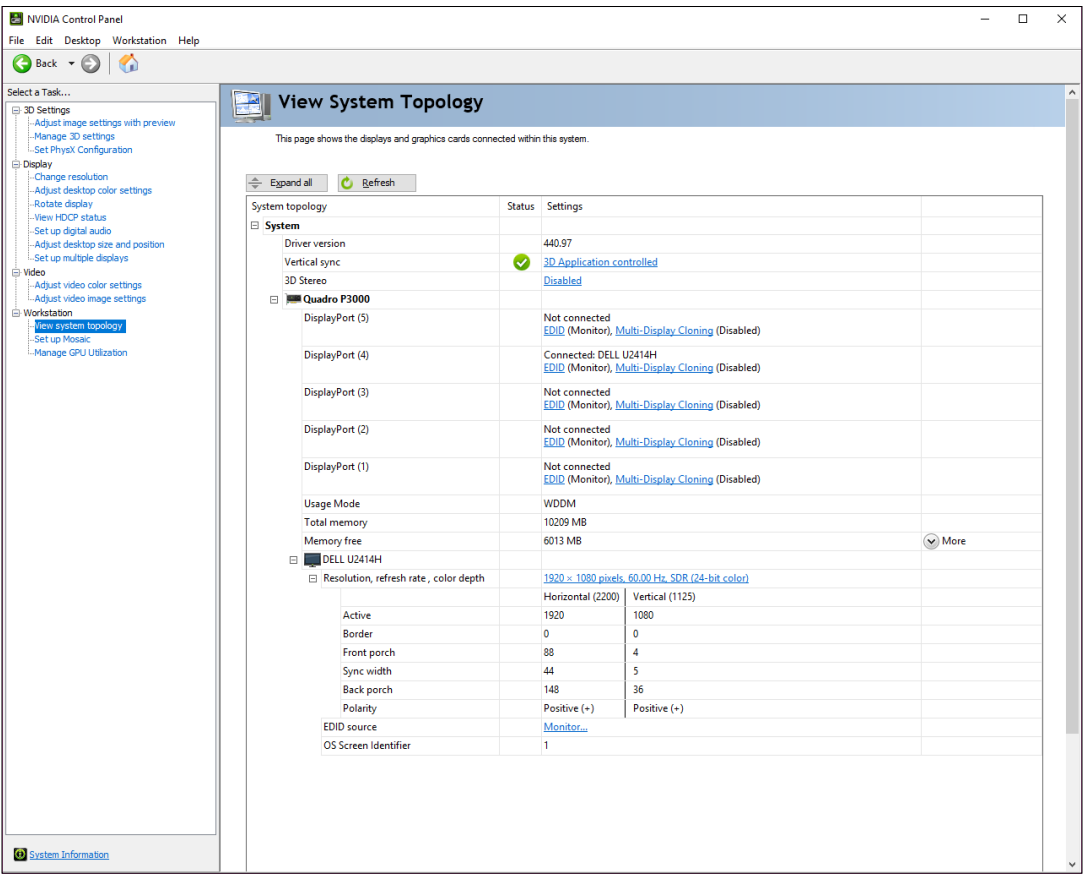

Figure 2
2. Navigate to the *Workstation >View System Topology* (figure 2).